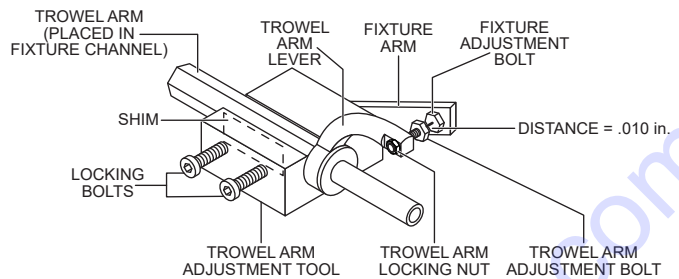

Figure 57. Trowel Arm Adjustment
2. Unscrew the locking bolts on the adjustment tool and place the trowel arm into the fixture channel as shown in Figure 57. A thin shim may be required to cover the blade holes on the trowel arm. Make sure to align the trowel adjustment bolt with the fixture adjustment bolt.
4. Adjust the bolt distance shown in Figure 57 to match one of the arms. The other arms will be adjusted to match this distance.